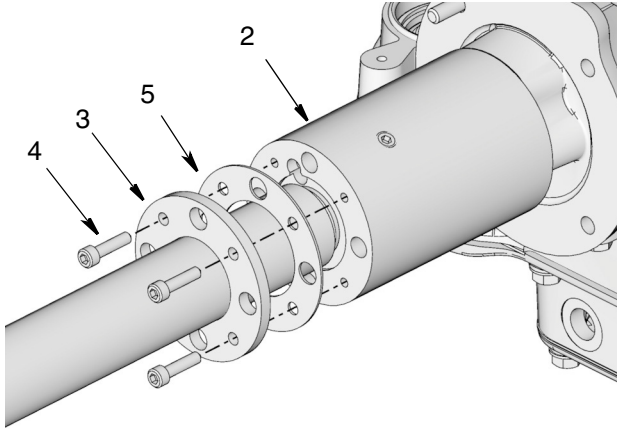

FIG. 19
7. **For Tube-In-Tube models only:** Remove bolts (4) holding tube (3) to pump adapter (2). Remove tube and gasket (5) and set these parts aside to use for reassembly (FIG. 19).